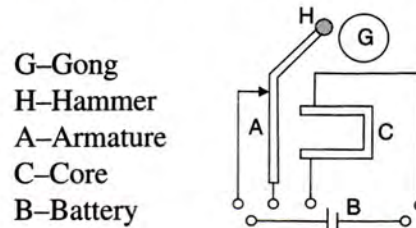

Fig. 10.21
31. The incomplete diagram of an electric bell is given in Fig 10.21. Draw winding of coil on the core and complete the electric circuit in the diagram